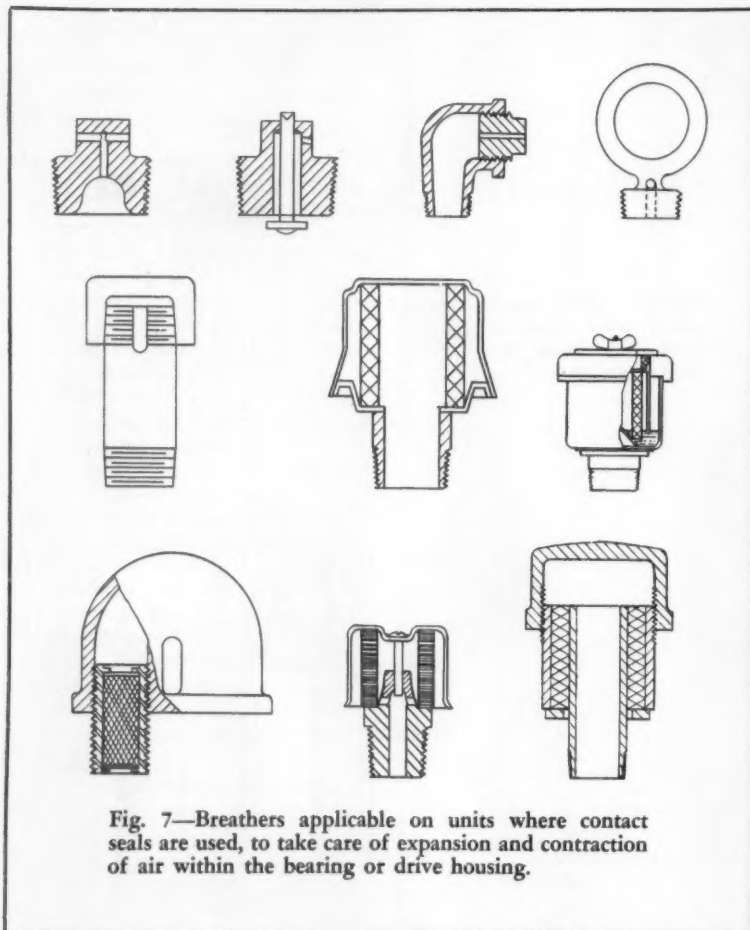

Fig. 7—Breathers applicable on units where contact seals are used, to take care of expansion and contraction of air within the bearing or drive housing.
6. Breathers with filters are applicable on all units where contact seals are used, to take care of the expansion and contraction of air within the bearing or drive as the stationary and operating temperature varies, Fig. 7. This avoids egress of lubricant and ingress of dirt at the seals, confining air movement to the breather that filters the air. Where atmosphere around the bearing or drive is clean, the filter may be omitted. Breathers are also used with clearance seals to equalize air pressures which originate from a stream of air passing over the housing.